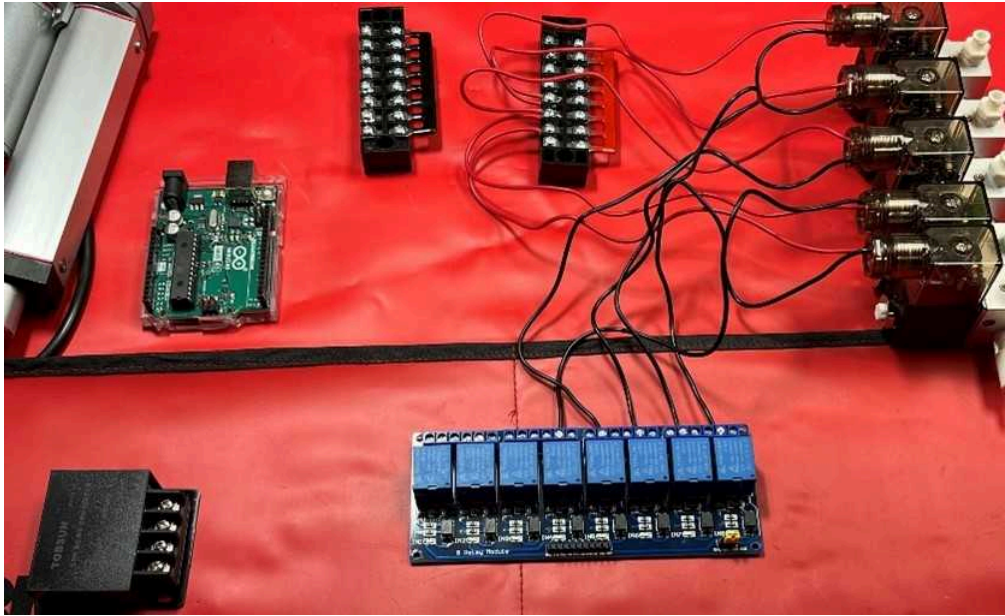

Figure 5. Solenoid valve wiring.
- 11.6 Wire the valves, negative (black) to the relay module (Figure 5) following the connections chart below.